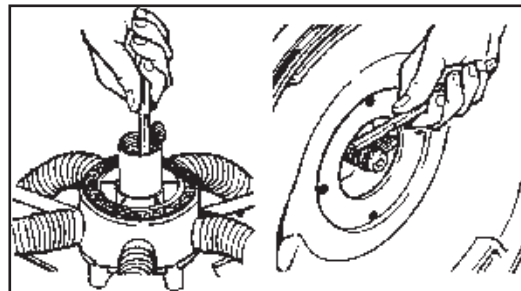

Figure 6-4. Clean Off Debris from Gear Box Shaft
11. Clean off any debris that may have accumulated on the gear box shaft or the inside threaded bore of the hub (see Figure 6-4).